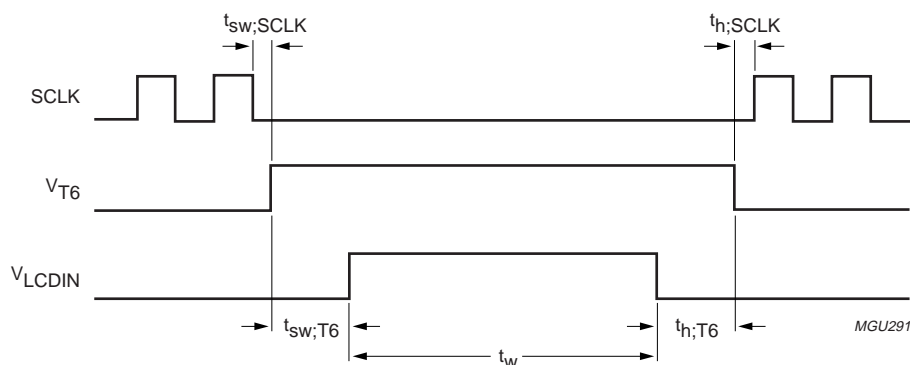

Fig.24 Programming waveforms.
**Table 14** Programming specification; see Fig.24